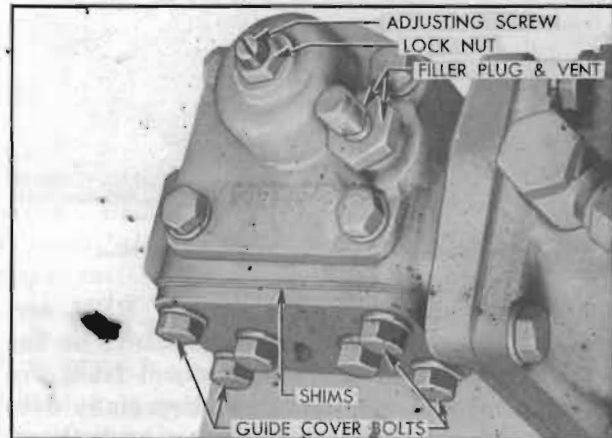

Figure 7-20—Steering Gear Adjustments
3. Remove filler plug with vent attached (fig. 7-20) and use a clean oil gun to draw out approximately $\frac{3}{4}$ pint of lubricant from the gear housing.
4. Loosen the four corner bolts of power rack guide cover just enough to assure lash between the power rack and pitman shaft sector. See figure 7-20. NOTE: *If bolts are loosened too much, the rack will bind on sector teeth.*
6. Turn pitman shaft adjusting screw clockwise until lash between pitman shaft sector and ball nut is just removed, checking by working pitman arm, and tighten lock nut. See figure 7-20.
10. Remove the power rack guide cover (fig. 7-20), take out one .003" cover shim, then re-install cover with remaining shims and tighten bolts securely.